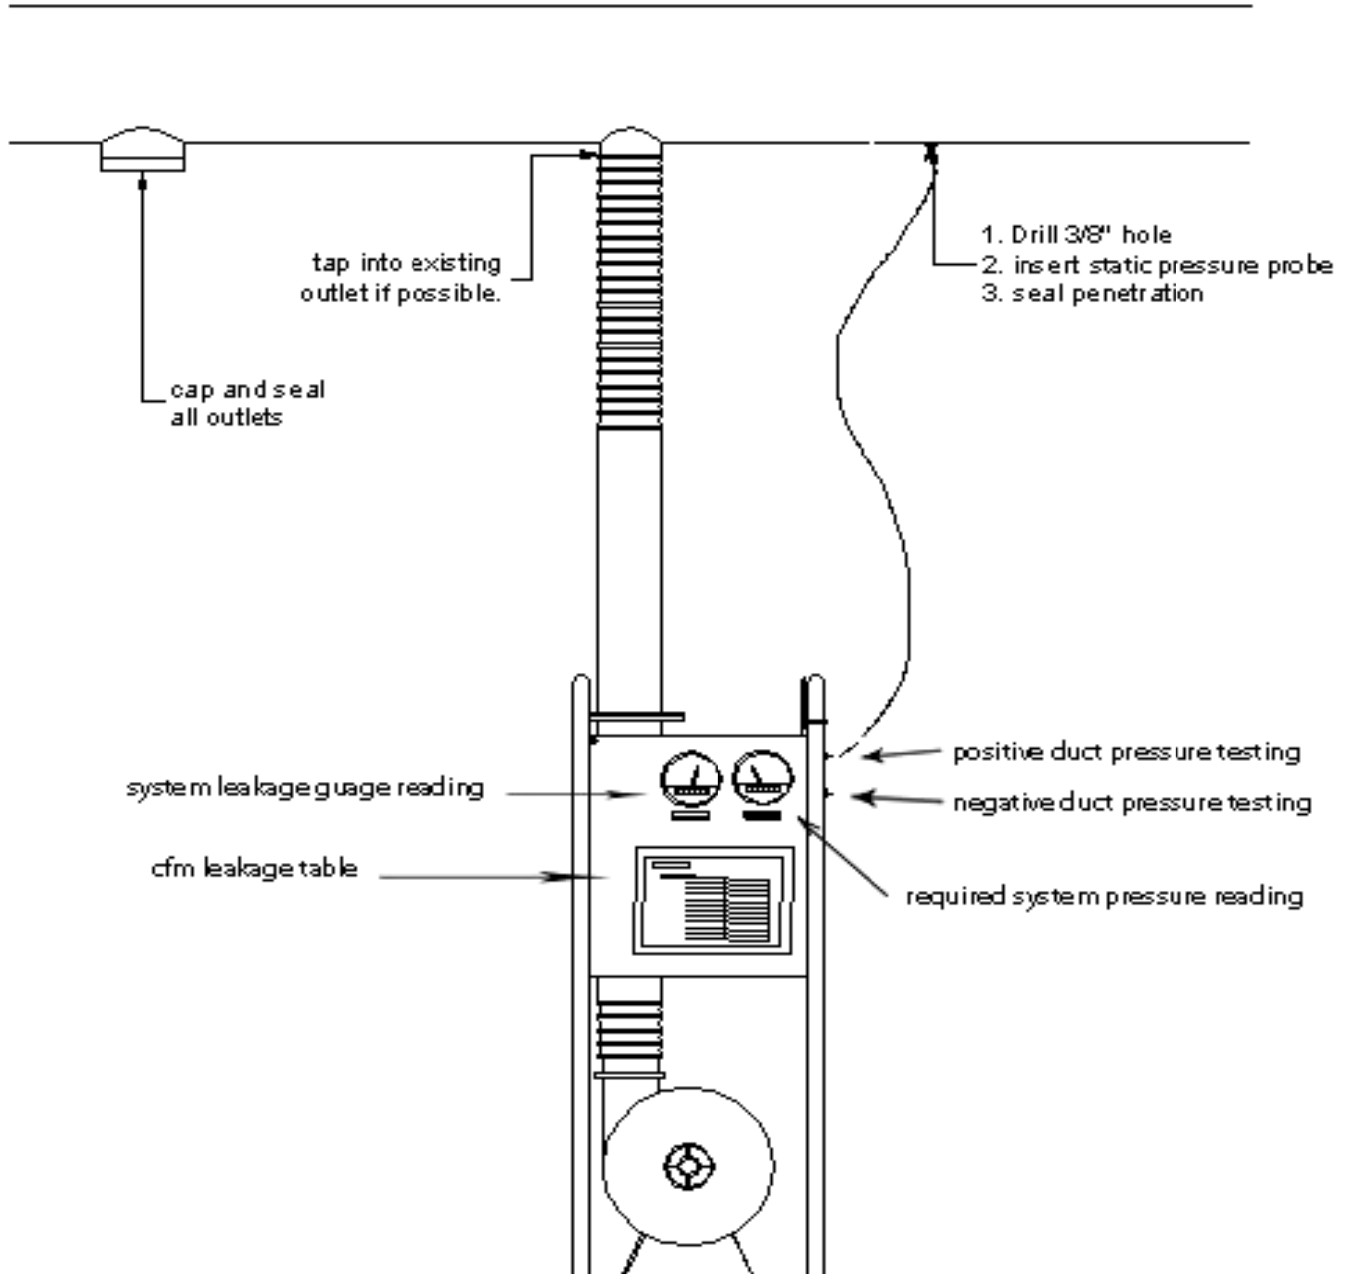

Fig. 7 – Connection and Gauge Locations
8. Seal the static probe penetration joint with putty or tape. (See **Figure 7 example below**)